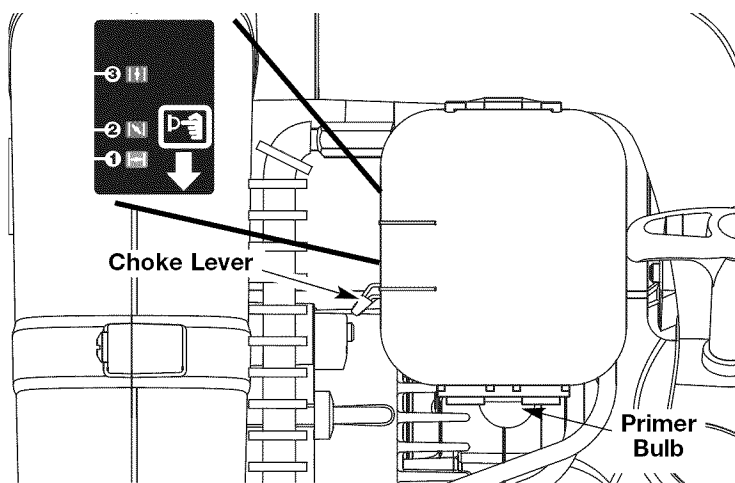

Fig. 11
3. Fully press and release the primer bulb 10 times, slowly. Some amount of fuel should be visible in the primer bulb and fuel lines (Fig. 11). If fuel can not be seen in the bulb, press and release the bulb until fuel is visible.
4. Place the choke lever in **Position 1** (Fig. 11).
7. Place the choke lever in **Position 2** (Fig. 11).
10. While continuing to keep the throttle trigger in the fast position, place the choke lever in **Position 3** and continue to warm the unit for an additional 60 seconds. The unit may be used during this time (Fig. 11).
IF... the engine hesitates, return the choke lever to **Position 2** (Fig. 11) and continue warm-up.
IF... the engine fails to start after a few attempts, place the choke lever in **Position 3** (Fig. 11) and press down the cruise control. Pull the starter rope in a controlled motion 3 to 8 times. The engine should start. If not, repeat.
IF WARM... If the engine is already warm, start the unit with the choke lever in **Position 2** (Fig. 11). After the unit starts, move the choke lever to **Position 3** (Fig. 11).